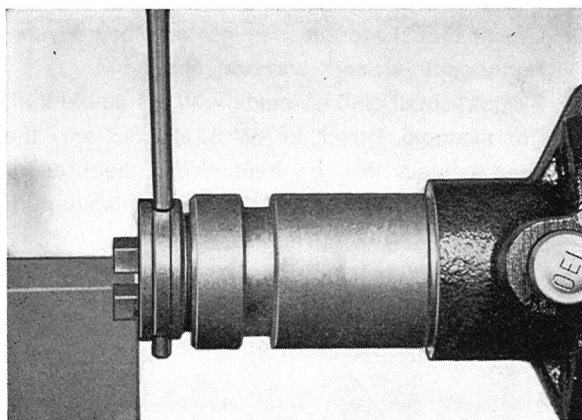

Fig. 3-100. Removing driving collar
4. Remove the resilient ring (13, Fig. 3-96) and mark how the driving collar (11, Fig. 3-96) is located in relation to the distributor shaft. Tap out the pin (Fig. 3-100), lift off the driving collar and pull up the distributor shaft. Check that no washers have been lost.